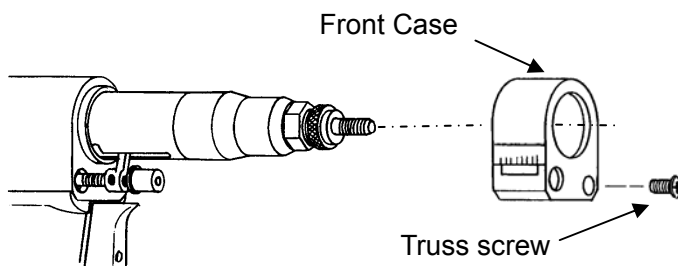

Figure 7-7
- Use a cross-head screwdriver to remove the truss machine screw and detach the Front Case (Figure 7-7).